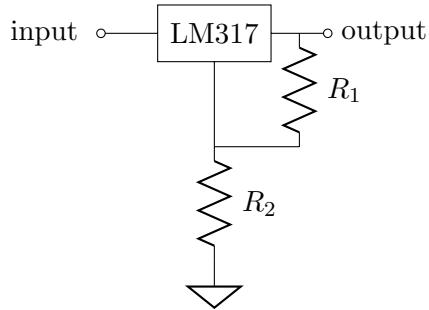

Figure 3: LM317 linear regulator circuit.
- b) For the circuit of Fig. 3, with sing an input voltage of 9V and $R_1=510\Omega$, what's the value of R_2 such that the output voltage is 5 V? What is the efficiency of the regulator in this case? "LM317" refers to the Texas Instruments LM317 voltage regulator IC. You should be able to find its datasheet online.